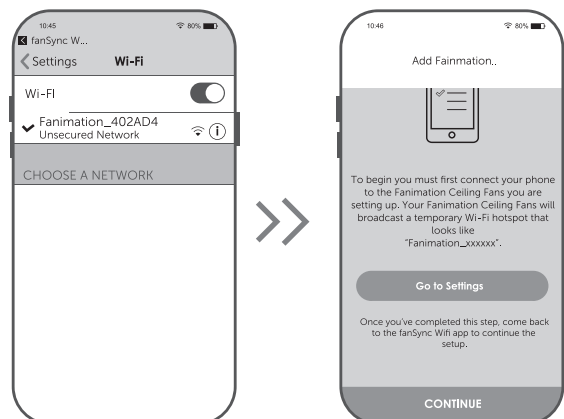

Figure 6
- ☐ 6. In the WiFi settings on your smart device, select the Fanimation_XXXXXX device and return to the fanSync WiFi app and press" CONTINUE". (Figure 6)